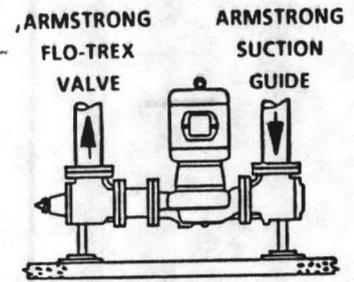

Fig. 1 Recommended Installation
- Floor mounted supports under Armstrong Suction Guide and Flo-Trex Valve (Fig. 1)